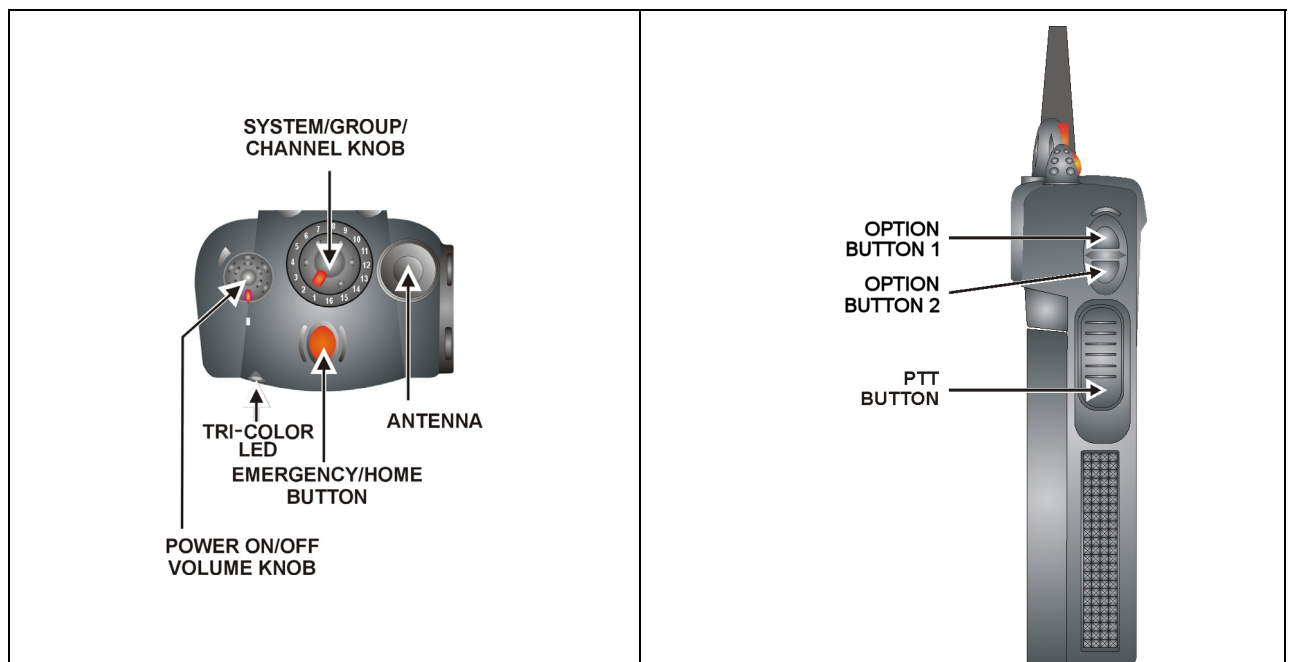

Figure 9-1: Top and Side View
1. Power ON the radio by rotating the POWER ON/OFF/VOLUME knob clockwise. A short alert signal (if enabled through programming) indicates the radio is ready to use. Refer to Figure 9-1 for location of the POWER ON/OFF/VOLUME knob.
The radio features two rotary control knobs and an emergency button mounted on the top of the radio (Figure 9-1). Push-To-Talk and option buttons are mounted on the side (Figure 9-1). The front mounted keypad of the P7270 System model has 15 buttons and the P5250 and P7250 Scan models have six buttons. The P7230 Select model does not have a front mounted keypad.
PTT BUTTON Push-To-Talk must be pressed before voice transmission begins. In trunked mode the radio's ID is transmitted upon depression of the PTT button. Refer to Figure 9-1 for the location of the PTT button.